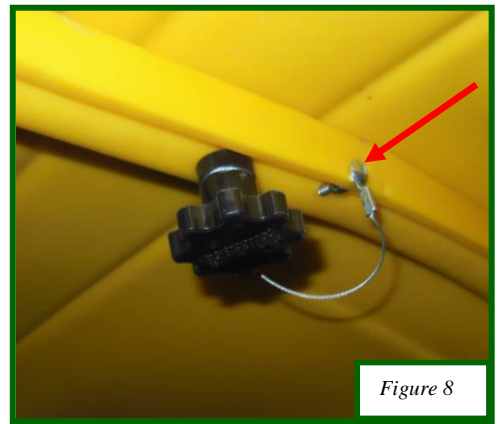
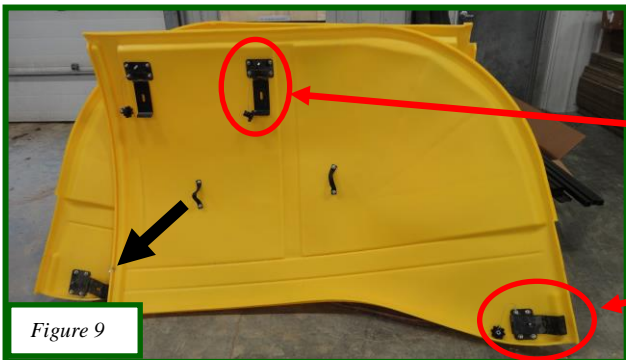

Figure 8
Figure 9
**Step 2: Front Rolltube Bracket Installation** (See Figure 8)
Install a plastic knob on the hood without a decal/writing on it on the inside lip of the hood. (See Figure 8) Drill around the same area as the black arrow shown in the Figure 9. Secure the cable with a 1/4"x3/4" bolt, washer and nylon lock nut.
Press the 2 hoods together so the top is flush and the ribs line up with each other. Drill a 3/8" hole through the pre-drilled hole in the hood with the decal/writing on it through the water trough hood. Make sure you are drilling straight up and down. (See Figure 12) Install a 3/8" x 3" carriage head bolt through the hole and tighten with the plastic knob that was installed on the hood during hood assembly. (see Figure 8) You may want to hammer the head of the bolt into the hood so it sucks into the plastic easier. If the bolt head does not get drawing in properly it will cause premature wear on your tarp and straps. Repeat for other side.